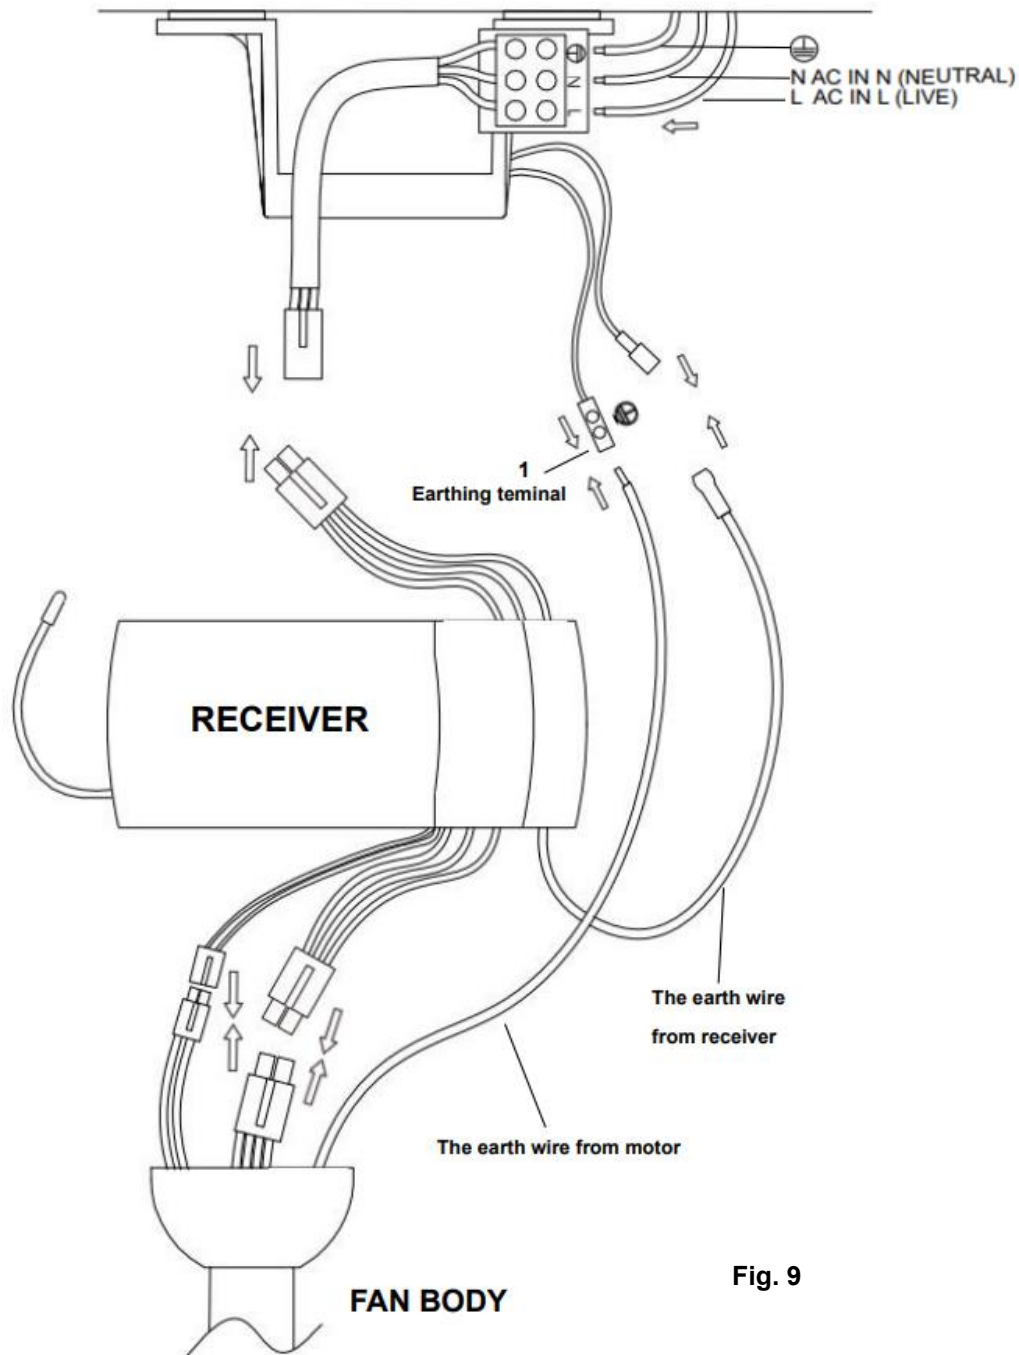

Fig. 9
Ensure the motor earth wire is connected to the single earthing terminal block “1” in Fig.9
From mains supply to mounting bracket terminal block: (Fig.9)
From mounting bracket to receiver and motor: (Fig.9)
- Connect the motor earth wire to the single earthing terminal block “1” in the diagram below. (Fig.9)